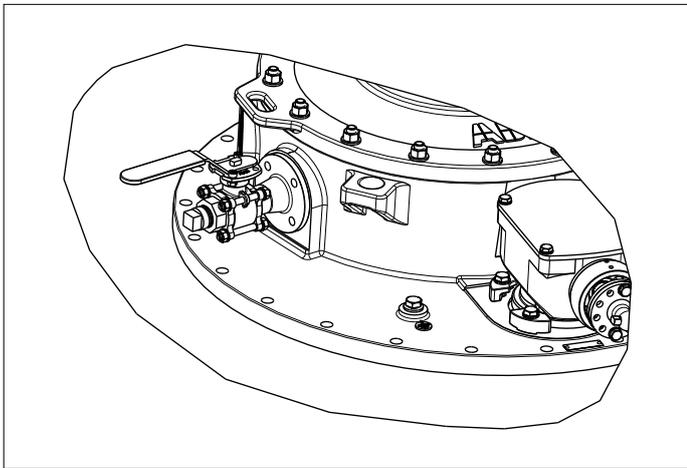

Fig. 45. Oil valve.
Remove the transport cover on the flange for connection to the oil conservator. Make sure that the O-ring is in place on the flange and connect the pipe to the oil conservator. Tighten the nuts; see Fig. 45.
- The oil valve (see Fig. 45) should be removed and re-connected at the end of the draining tube at operable ground level.